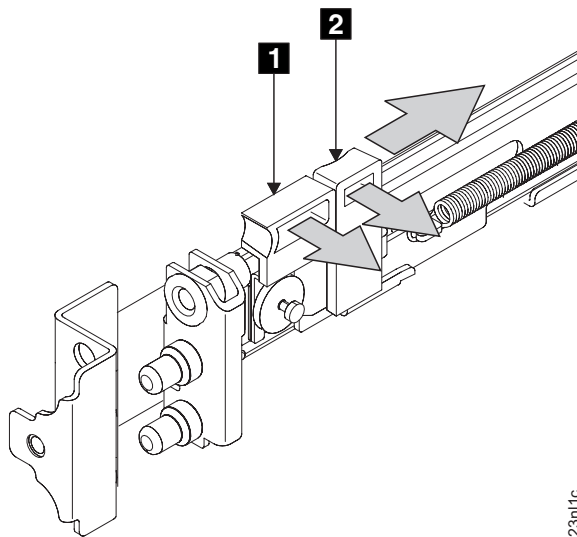

Figure 42. Opening the front latch-lock carrier assembly
3. Gently push the latch lock **2** away from the rail as you move the latch lever **1** toward the far end of the rail (Figure 42). The latch-lock carrier assembly slides against the spring tension.